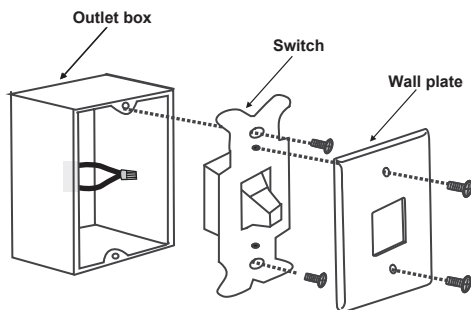

Figure 16
Step 1. Remove the existing wall plate and the old switch from the wall outlet box. Wire nut the **BLACK** leads (hot) together and push back inside the outlet box. (Fig. 16)